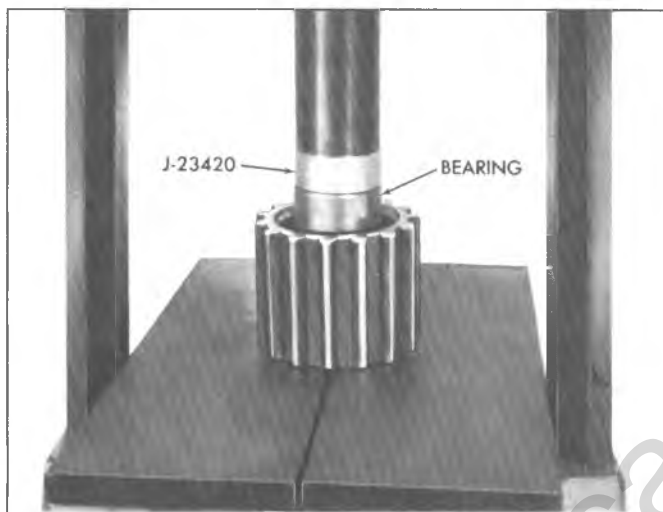

Fig. 8D--Installing Rear Output Shaft Pilot Bearing
- Press new pilot bearing in bore of rear output shaft with bearing identification facing out using Tool J-23420 as shown in Figure 8D.